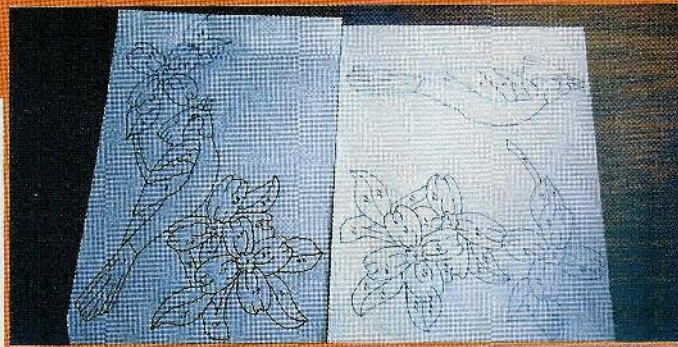

Fig. 3. Numbering each part of the cardinal and dogwood pattern will prove helpful for the assembly.
**Trace the pattern**—Trace the cardinal and dogwood design from the full-size pattern. Numbering each piece on the pattern will make it easy to see where everything goes when the project is reassembled. This is your main pattern and it will be used again later in the project (see **Fig. 3**).